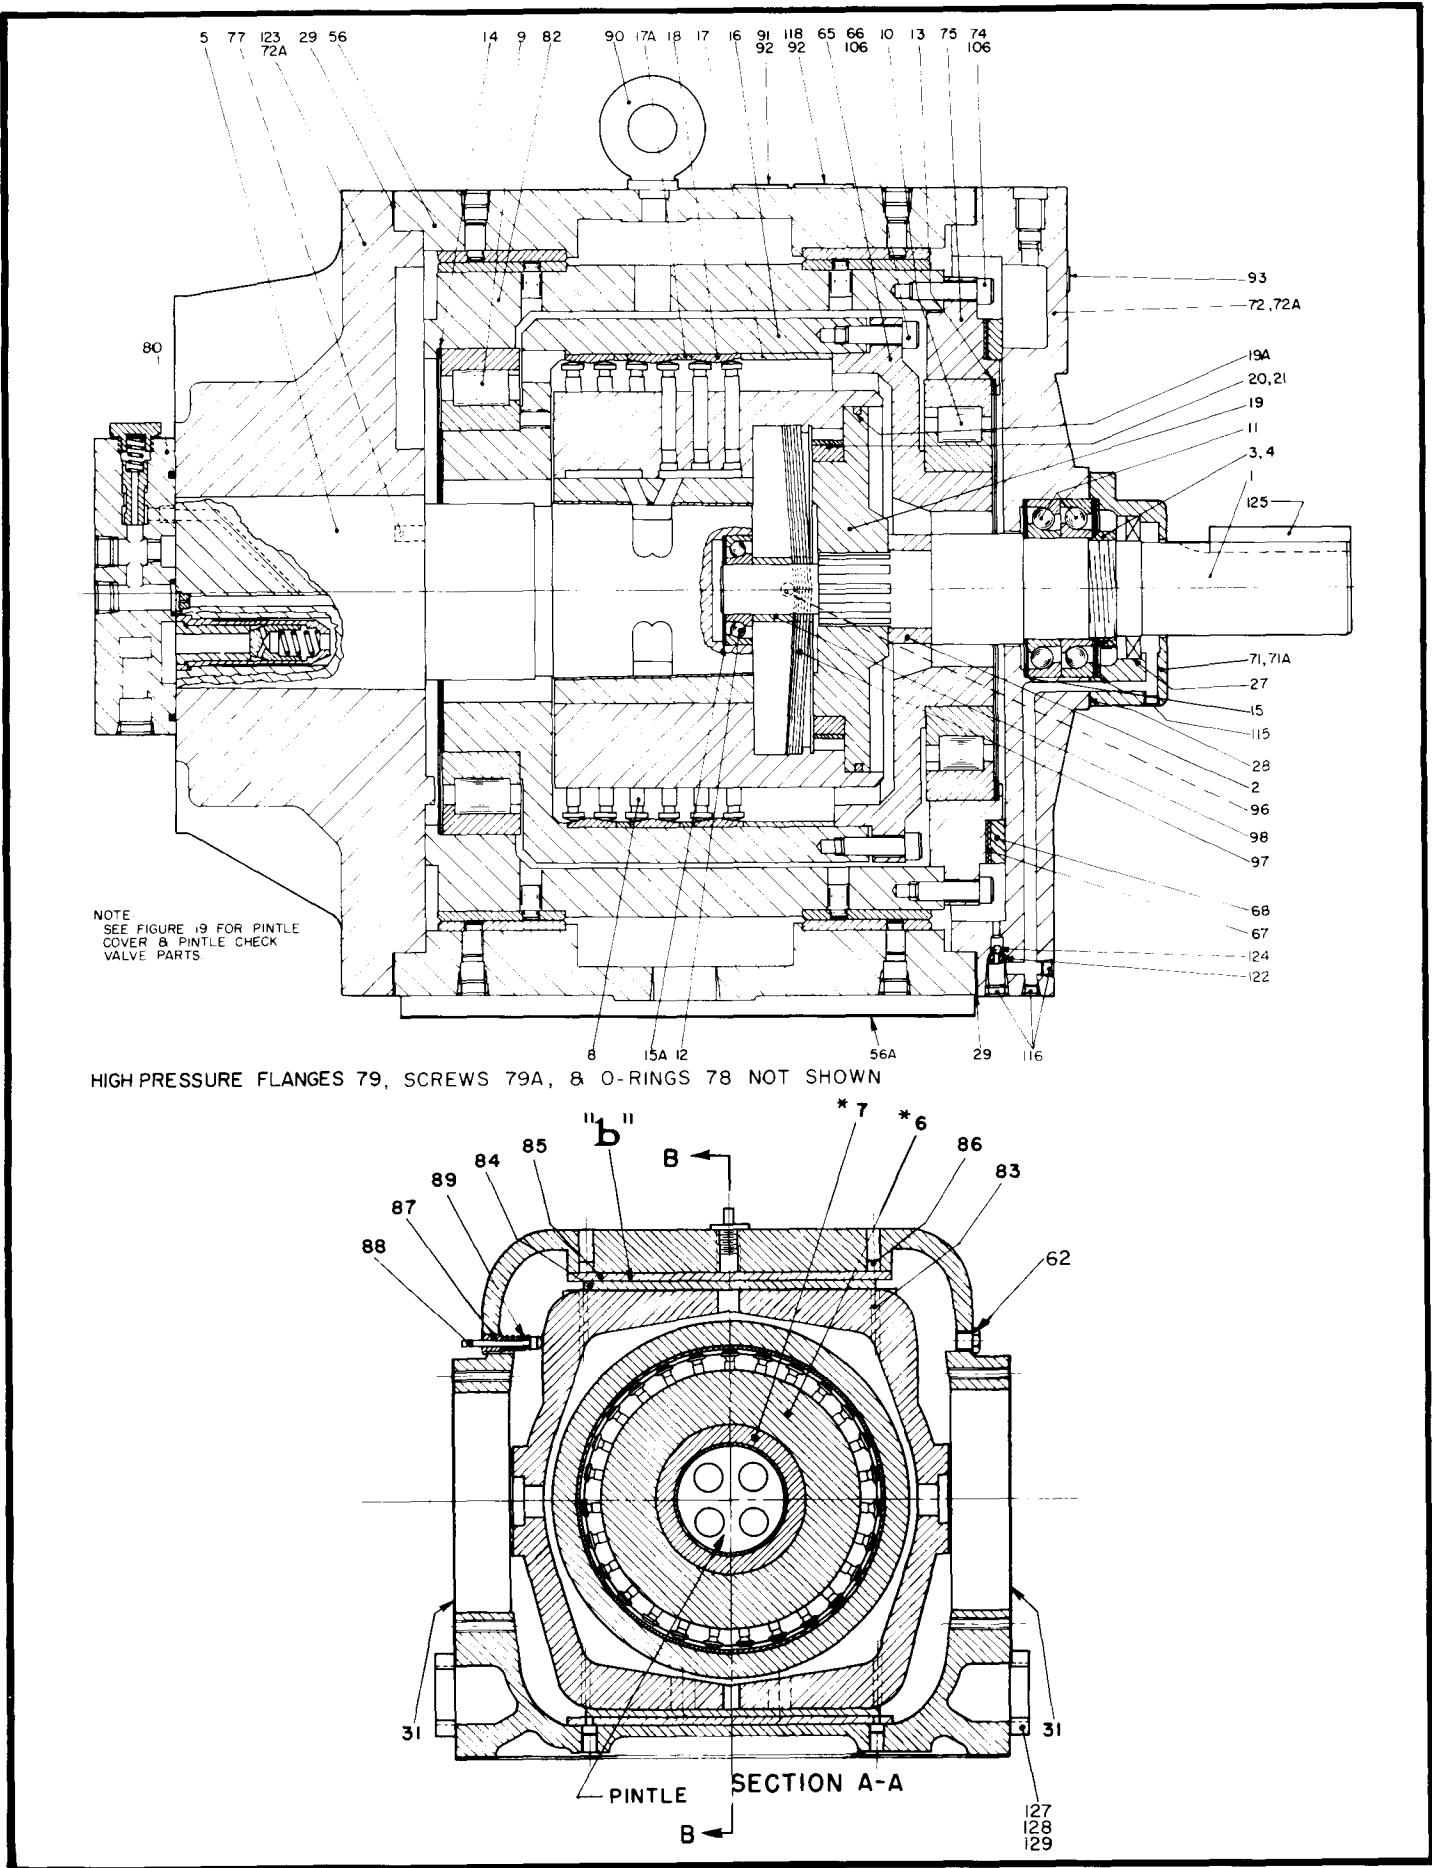

Figure 13. Type DN Pump. (508644)
See Figure 13. Inspect shaft seal (27) for cracks, cuts, hardening or detrioration. If a replacement is needed, tap seal from shaft seal gland (71) and press new seal into cover until it bottoms out against shoulder. The seal must be installed squarely into gland, otherwise leakage will result.
See Figure 13. Clean all parts thrououghly, removing dirt, chips and foreign matter. Inspect all bearings for pitting or seizing. Inspect pistons and their bores for cracks, scratches or indications of wear. Inspect working surfaces of pintle, cylinder bushing and thrust rings. Inspect slideblock and case liners for grooves and cracks. A mark is scribed in the bushing and cylinder. If the bushing has turned inside the cylinder, the marks would not line up. When marks don't line up, the entire cylinder, bushing and pintle assembly must be replaced. Inspect pintle orifice and clean with compressed air. Do not insert any tool into the orifice which could accidentally change the size of the orifice.
See Figure 13. Gasket (29) must be positioned properly to prevent blocking lubrication hole at top of case, near center. Assembly rear case (123) to middle case (56) with gasket (20) in correct position. Use screws (72A) to secure rear cover to middle case. NOTE: THIS IS A PRESS FIT.